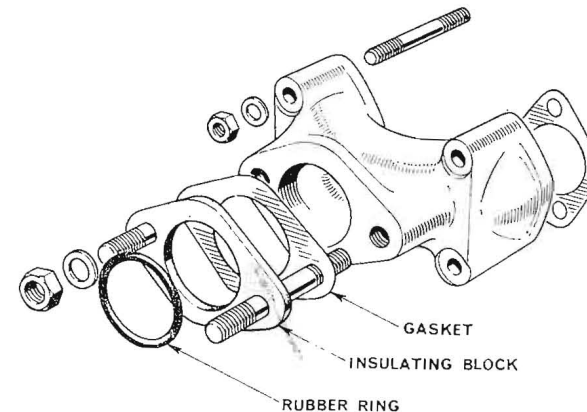

Fig. 7. Showing details of the induction manifold assembly
Referring to Fig. 4, unscrew the mixing chamber cap ring (2) and remove the two nuts securing the carburettor flange to the induction manifold assembly, details of which are shown in Fig. 7. Then, except on later unit-construction models (*see* page 107), remove the carburettor from its mounting studs on the manifold. While removing the carburettor withdraw the slides (throttle valve and air valve) from the mixing chamber and tie them up in a convenient position out of the way.
Closely examine the gasket, insulating block and rubber "O" ring shown in Fig. 7. If there is any damage which could adversely affect an air-tight joint, renew the item(s) concerned immediately.
Distortion sometimes occurs, and this may cause an air leak. If the flange face is slightly concave, file and rub down the face with emery cloth laid on a surface plate until it is dead flat and smooth. Alternatively have it faced on a machine. Renew the rubber "O" ring (see Fig. 7) unless perfect and see that the heat-resisting washer is in sound condition.
To Replace Amal Carburettor. With the gasket, insulating block and rubber "O" ring correctly located (see Fig. 7) on the face of the induction manifold, position the carburettor flange over the manifold studs after first re-connecting the throttle valve and air valve to their respective cables, smearing a little oil over the slides and then easing the latter